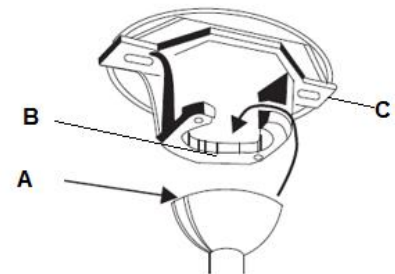

Fig. 8
Lift the fan assembly onto the mounting bracket. Ensure the registration slot (A) of the hanger ball is positioned on the stopper (B) of the mounting bracket (C) to prevent the fan from rotating when in operation. **Fig.8**